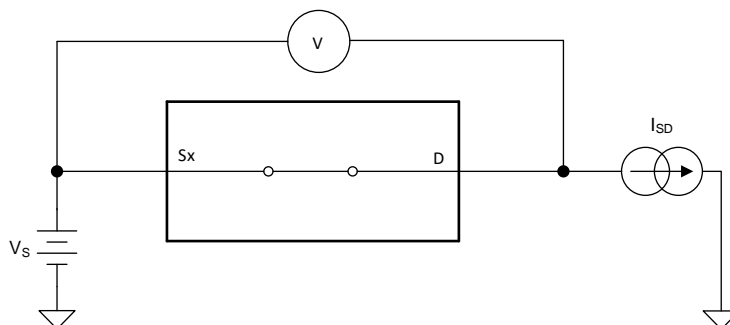

Figure 16. On-Resistance Measurement Setup
The on-resistance of a device is the ohmic resistance between the source (Sx) and drain (Dx) pins of the device. The on-resistance varies with input voltage and supply voltage. The symbol R_{ON} is used to denote on-resistance. The measurement setup used to measure R_{ON} is shown in Figure 16. Voltage (V) and current (I_{SD}) are measured using this setup, and R_{ON} is computed with $R_{ON} = V / I_{SD}$: